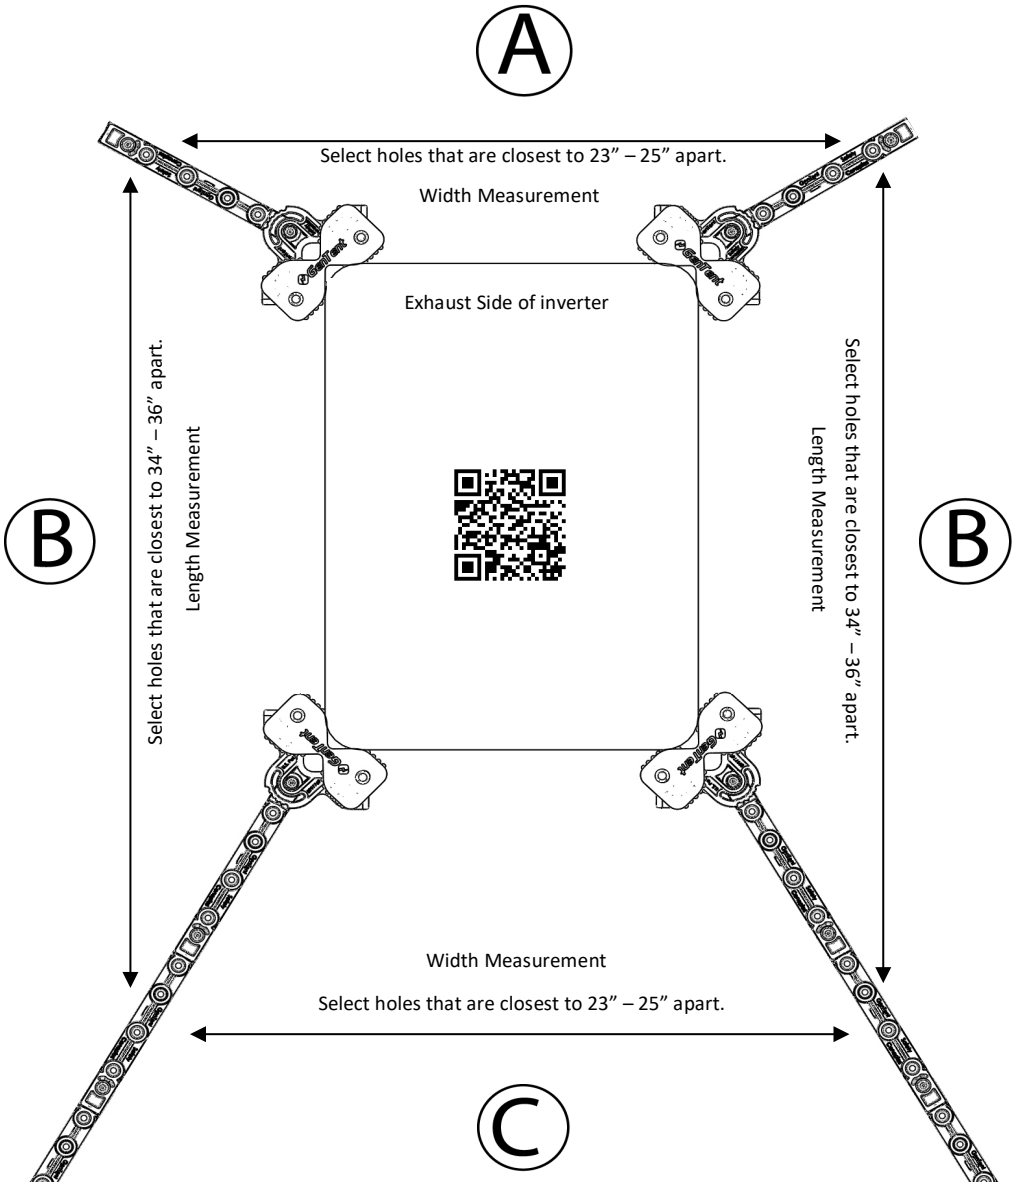

Fig. 2.4
- e. Move to the opposite end from your exhaust and add Extender Arms evenly until you can measure a length between 34" to 36". (Fig 2.4 "B")
- f.** Measure the width between the rod holes on the second set of Angle Braces to ensure the distance is between 23" and 25" (Fig 2.4 "C")